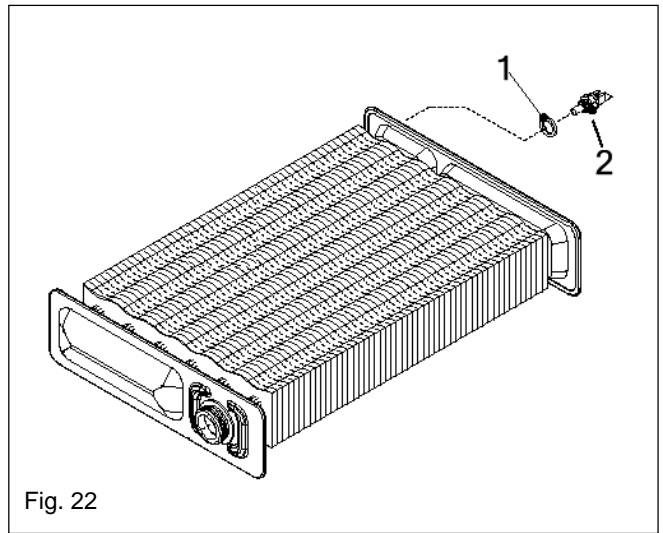

Fig. 22
**6.10 PRIMARY THERMISTOR (see fig. 22)**